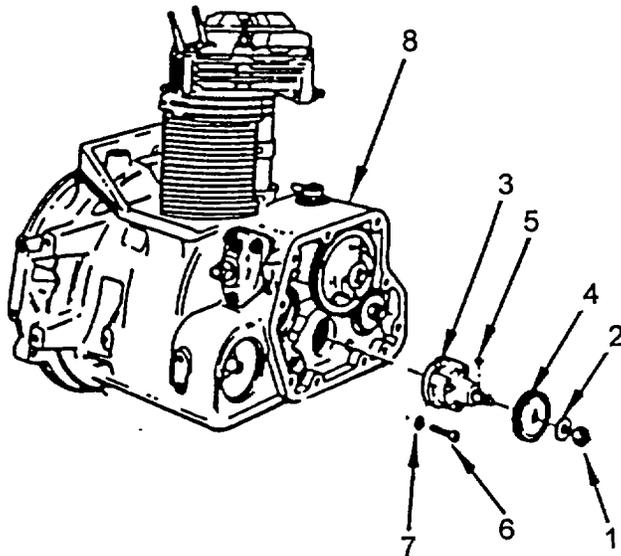

Figure 6-8. Oil Pump Replacement
a. Removal. (Refer to Figure 6-8).
- (1) Remove self-locking nut (1) and washer (2) from oil pump (3).
- (2) Pull oil pump drive gear (4) and key (5).
- (3) Remove three screws (6) and washers (7).
- (4) Remove pump (3) from crankcase (8).
- **Compressed air used for cleaning purposes will not exceed 30 psi. Use only with effective chip-guarding and personal protective equipment (goggles/faceshield, gloves, etc.) (5) Using dry cleaning solvent and compressed air clean all parts.**
- (6) Inspect all parts for damage. Replace as required.